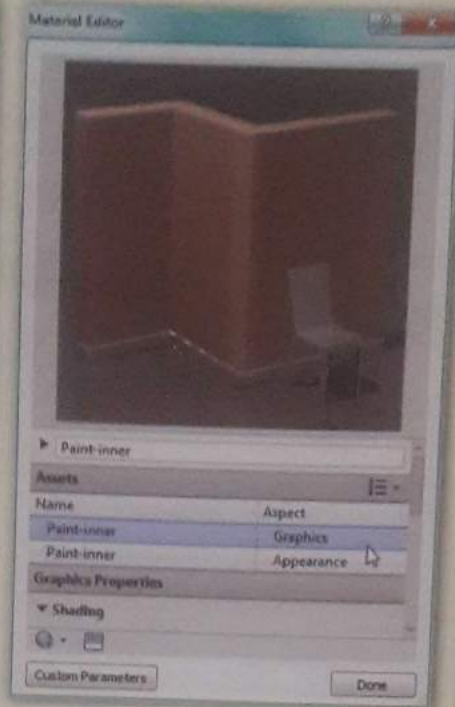

Figure 44: Graphic Appearance
- d. To duplicate the material, from the material editor dialog box » Drop down the bottom left icon » Select Duplicate Material » Enter a new name and change the graphic appearance (Figure 44).